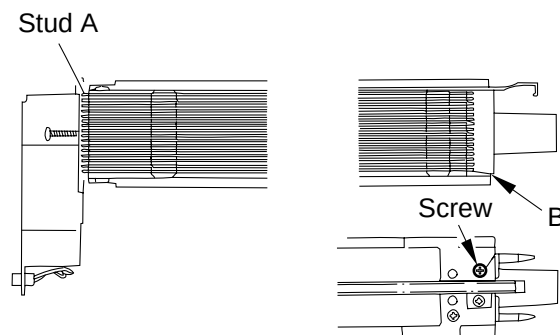

Figure 11-220
- 6) Hook the loop on the stud A shown in Figure 11-220.